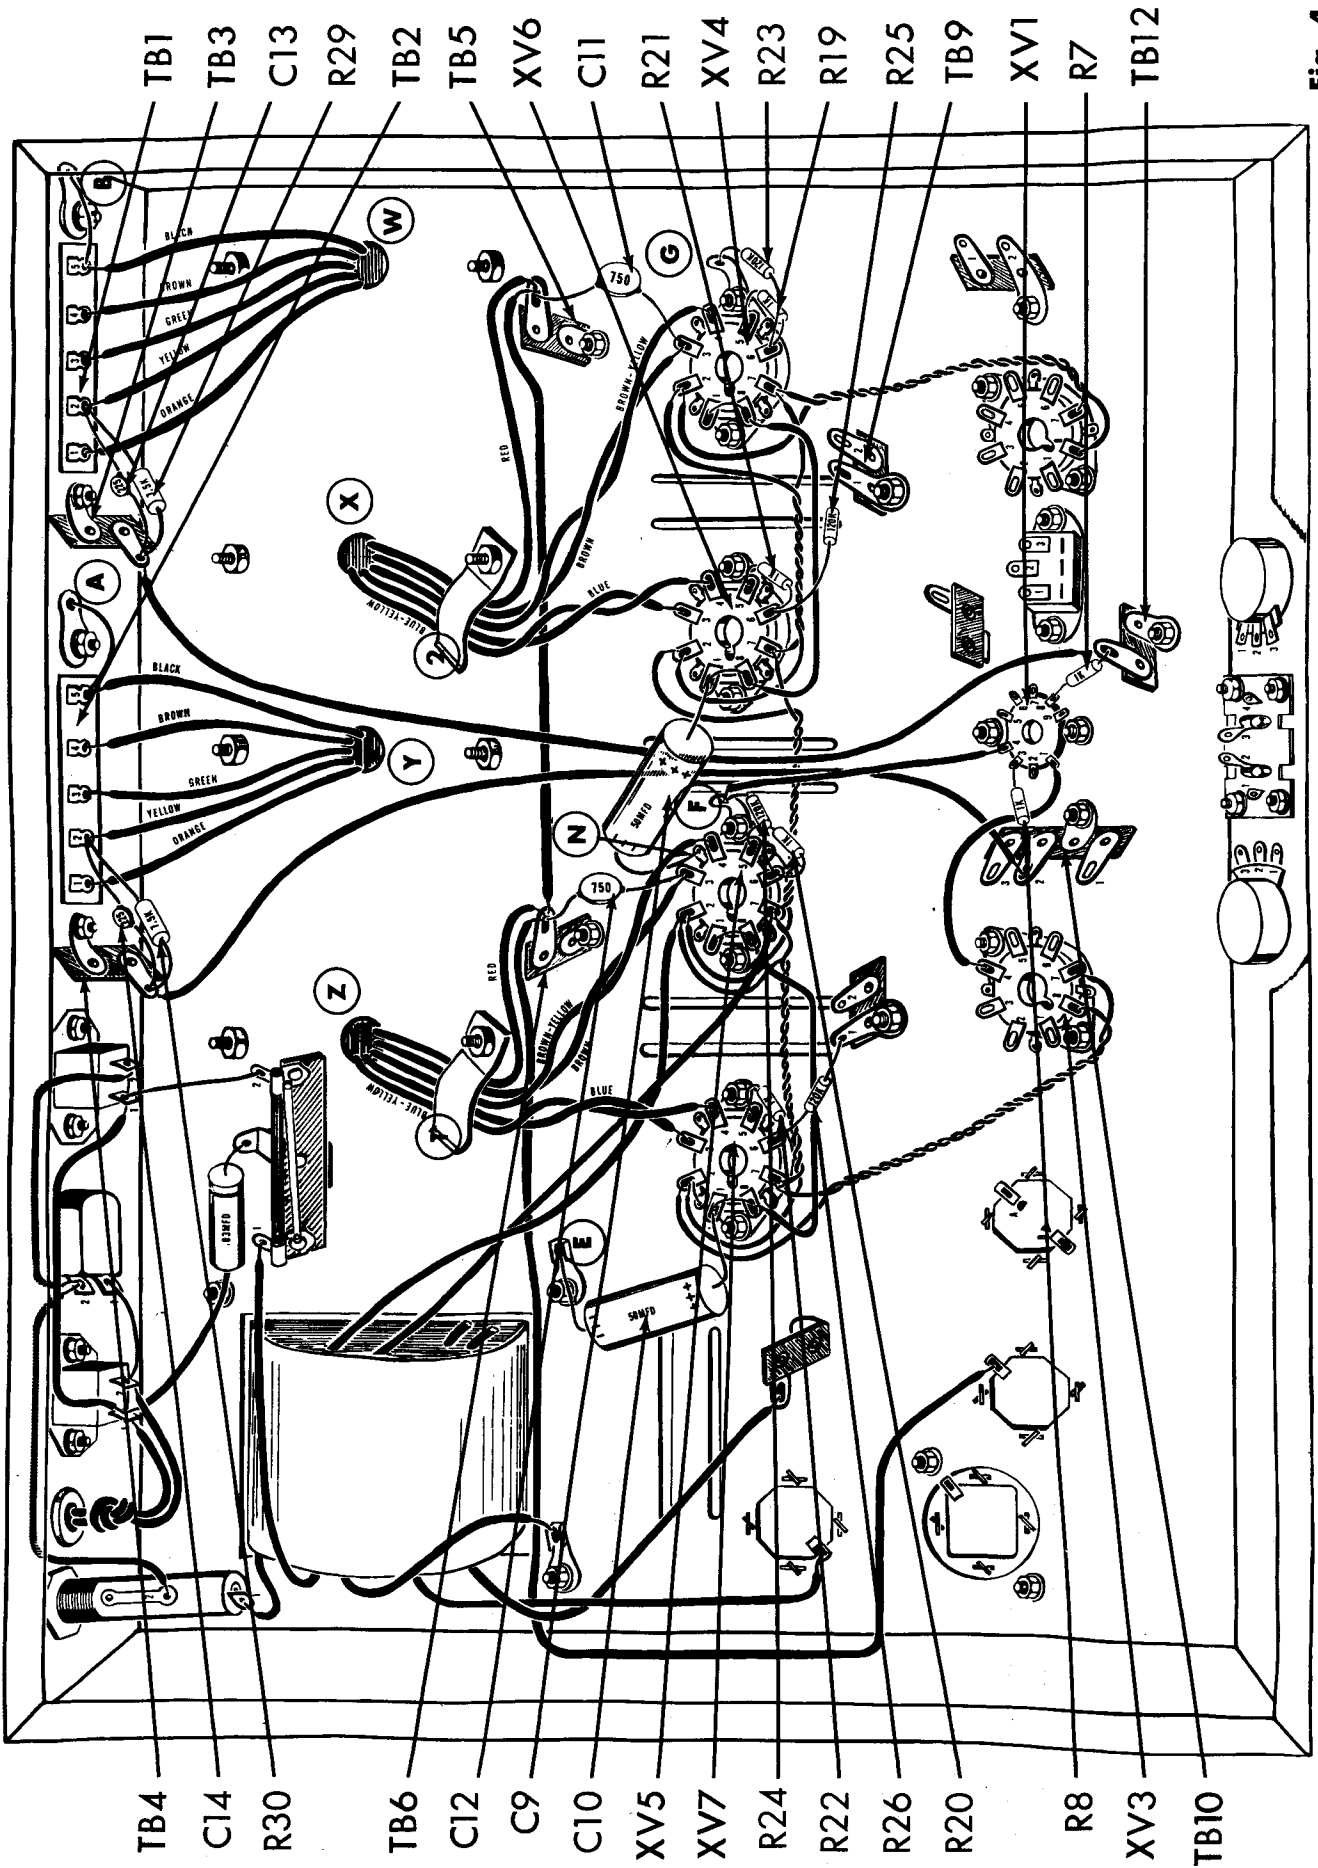

Fig. 4
- (✓) 11. Fig. 4. Connect an 11" piece of gray wire from TB4 (S3) to TB10-2 (C).
- (✓) 12. Fig. 4. Cut all leads on two 750 mfd disc capacitors, C11 and C12 to 1 1/4". Connect C11 from TB5 (S3) to XV4-3 (S2). Connect C12 from TB6 (S4) to XV5-3 (S2).
- (✓) 13. Fig. 4. Connect a 4 1/2" piece of green wire from XV3-4 (C) to XV1-1 (S1).
- (✓) 14. Fig. 4. Cut all leads on six 1K (brown, black, red, silver) resistors R7, R8, R19, R20, R21 and R22 to 1/2". Connect R7 from TB12 (C) to XV1-8 (C). Connect R8 from TB10-2 (C) to XV1-3 (C). Connect R20 from XV5-5 (S1) to XV5-6 (C). Connect R22 from XV7-5 (S1) to XV7-6 (C), R21 from XV6-5 (S1) to XV6-6 (C) and R19 from XV4-5 (S1) to XV4-6 (C).
- (✓) 15. Fig. 4. Cut all leads on four 120K (brown, red, yellow, silver) resistors R23, R24, R25 and R26, to 3/4". Connect R23 from XV4-6 (C) to ground lug "G" (S1). Connect R25 from XV6-6 (C) to TB9-1 (C). Connect R24 from XV5-6 (C) to ground lug "F" (C). Connect R26 from XV7-6 (C) to TB8-1 (C).
- (✓) 16. Fig. 4. Connect a 3/4" piece of bare wire from XV4-1 (S1) to XV4-8 (S2).
- (✓) 17. Fig. 4. Connect a 3/4" piece of bare wire from XV6-1 (C) to XV6-8 (C).
- (✓) 18. Fig. 4. Connect a 3/4" piece of bare wire from XV5-1 (S1) to XV5-8 (S2).
- (✓) 19. Fig. 4. Connect a 3/4" piece of bare wire from XV7-1 (C) to XV7-8 (C).
- (✓) 20. Fig. 4. Cut all leads on two 50 mfd 50 volt electrolytic capacitors, C9 and C10, to 3/4". Connect the positive end of C9 to XV6-1 (S2) and the remaining lead to ground lug "N" (S1) at XV5. Connect the positive end of C10 to XV7-1 (S2) and the remaining lead to ground lug "E" (S1).
- (✓) 21. Fig. 4. Connect a 4" piece of gray wire from XV1-4 (S1) to ground lug "F" (S2).
- (✓) 1. Fig. 4. Connect a 1 1/2" piece of bare wire from TB2-5 (C) to ground lug "A" (S1).
- (✓) 2. Fig. 4. Connect a 1 1/2" piece of bare wire from TB1-5 (C) to ground lug "B" (S1).
- (✓) 3. Fig. 4. From hole "W", connect the black lead to TB1-5 (S2), the brown lead to TB1-4 (S1), the green lead to TB1-3 (S1), the yellow lead to TB1-2 (C) and the orange lead to TB1-1 (S1).
- (✓) 4. Fig. 4. From hole "Y" connect the black lead to TB2-5 (S2), the brown lead to TB2-4 (S1), the green lead to TB2-3 (S1), the yellow lead to TB2-2 (C) and the orange lead to TB2-1 (S1).
- (✓) 5. Fig. 4. Connect a 7" piece of red wire from TB6 (C) to TB5 (C).
- (✓) 6. Fig. 4. The leads from hole "Z" have been run under cable clamp #1. Run the leads from cable clamp #1 as shown. Connect the red lead to TB6 (C), the brown lead to XV5-3 (C), the brown-yellow lead to XV5-4 (S1), the blue lead to XV7-3 (S1) and the blue-yellow lead to XV7-4 (S1).
- (✓) 7. Fig. 4. The leads from hole "X" have been run under cable clamp #2. Run these leads from cable clamp #2 along the chassis as shown. Connect the red lead to TB5 (C), the brown-yellow lead to XV4-4 (S1) the brown lead to XV4-3 (C) the blue lead to XV6-3 (S1) and the blue-yellow lead to XV6-4 (S1).
- (✓) 8. Fig. 4. Cut all leads on two 7.5K (violet, green, red, gold) 5% resistors, R29 and R30, to 3/4". Connect one resistor R29, from TB1-2 (C) to TB3 (C). Connect the second resistor R30 from TB2-2 (C) to TB4 (C).
- (✓) 9. Fig. 4. Cut all leads on two 225 mfd disc capacitors, C13 and C14 to 1". Connect C13 from TB1-2 (S3) to TB3 (C). Connect C14 from TB2-2 (S3) to TB4 (C). Dress the leads of C13, C14, R29 and R30 so that they do not short against TB1-1 and TB2-1.
- (✓) 10. Fig. 4. Connect an 11" piece of gray wire from TB3 (S3) to TB12 (C).